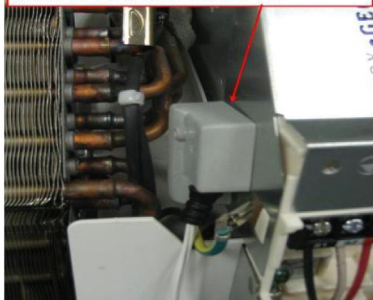

Fig 6
3. Determine the best location for the DPLS1 Control Box: Using the double-sided tape, mount the Control Box in a location inside the indoor unit that will allow clearance for the cover to be reassembled (Fig 6).